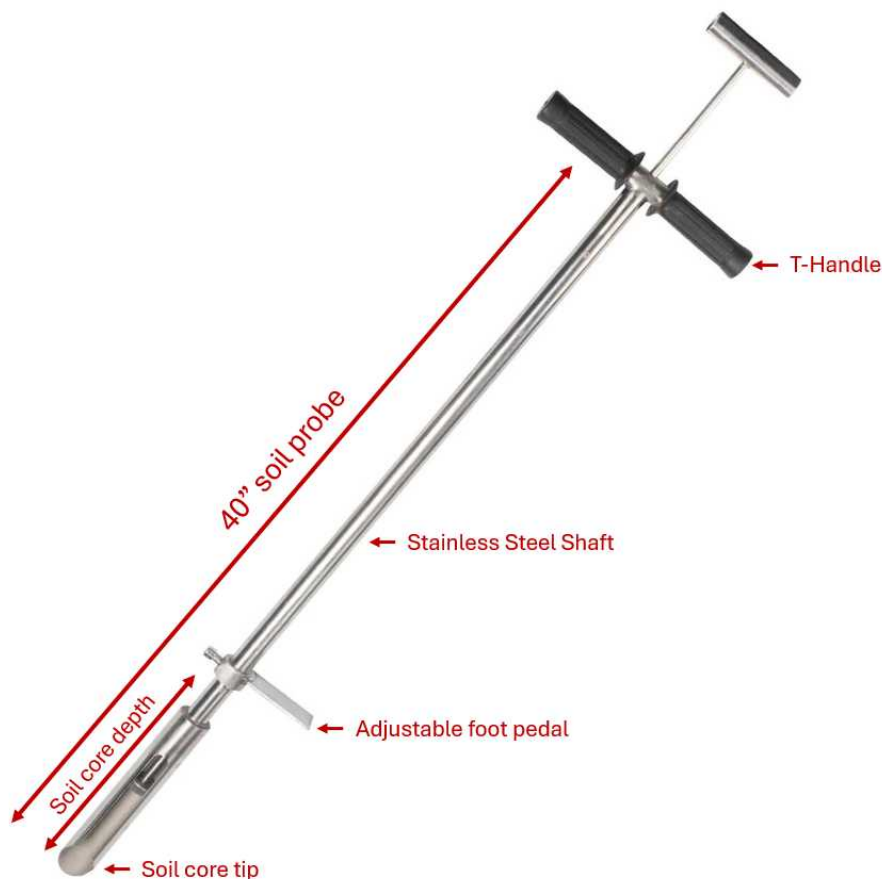

Figure 1: Example of a 40" Soil probe.
- 7 Set your soil probes to sample to a depth of 15 cm adjusting the foot pedal. How this is done depends on your soil probe (Figure 1).